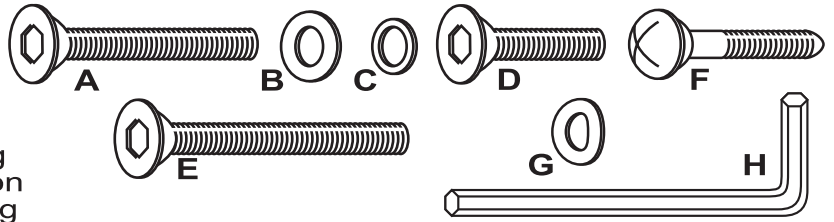

FIGURE 1
STEP 1 ~ Begin assembly, by attaching Back Panel (J) to Seat Base (K), using 2 Medium Allen Bolts (A), 2 Spring Washers (C) & 2 Metal Washers (B) in the back where each metal piece is inserted into round openings. Tighten all bolts. See Figure 1.
STEP 2 ~ Next, attach both Leg Panels (L) by crossing them between each other, and attach Top Ring (M) to each panel using 1 Medium Allen Bolt (A), 1 Spring Washer (C) & 1 Camber Washer (H) per each leg. Only tighten bolts by hand for this step. See Figure 1.